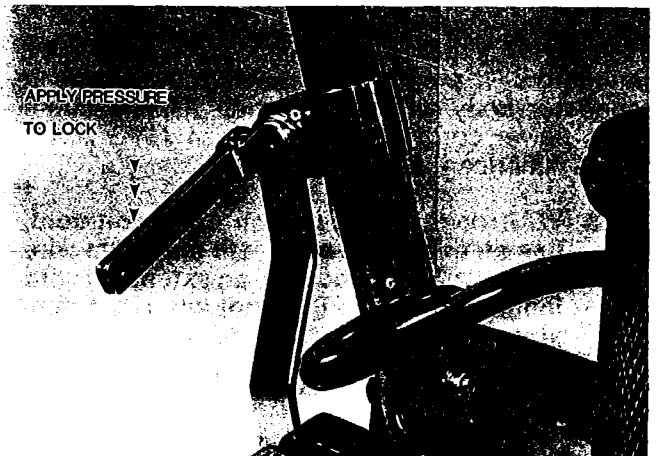

Figure 8
2. Lock the handle in the best position for operation. See figure 8.